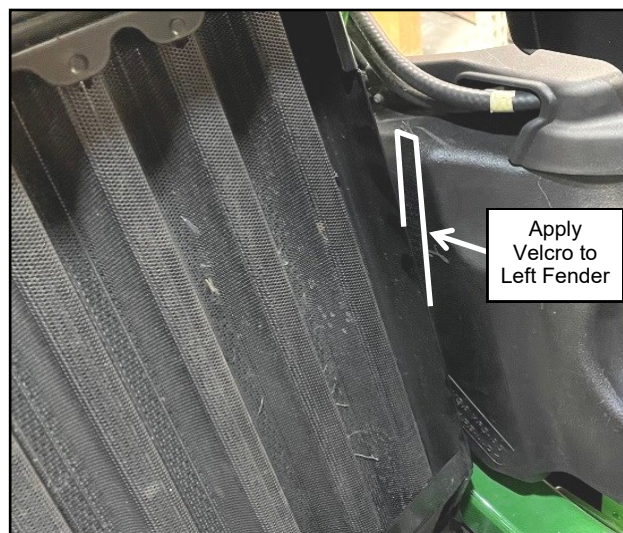

Fig. 2.19 (Install Velcro, Left Fender)
2.19 At the bottom of the left side rear panel assembly there is a small piece of Velcro. Place a piece of P.S.A. Velcro onto the rear fender as shown in Figure 2.19. Attach lower corner of rear panel vinyl onto installed Velcro.